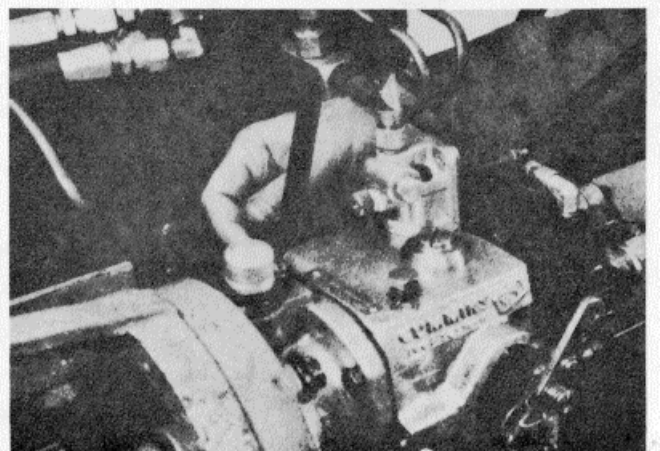

Figure 16G-86. Setting AFC Plunger Position with Service Tool 3375137
6. Using the AFC control plunger positioning tool 3375137, unlock the plunger locknut, and adjust plunger position to obtain 79 psi fuel pressure ± 2 psi. Adjusting the plunger will require resetting the flow until specified pressure and flow are obtained, Figure 16G-86.